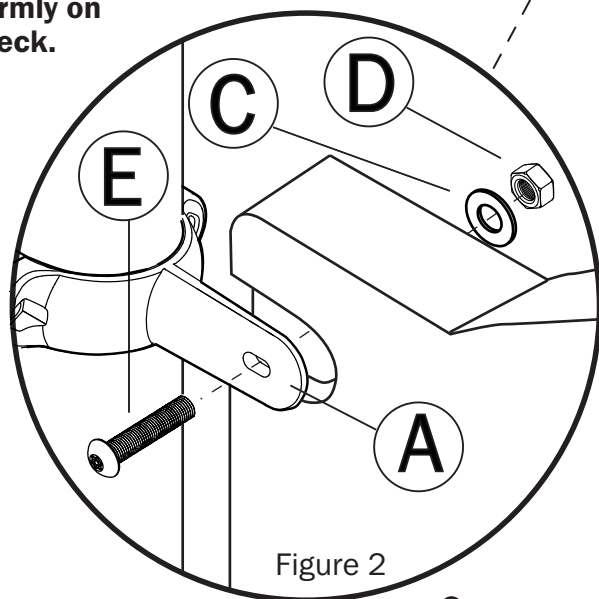

Figure 2
2. From back side of Slide Hood, place flat side of Panel Clamp(A) against Slide Hood. Insert Bolt(E) into slot of Panel Clamp(A), through hole in Slide Hood and secure with Flat Washer(C) and Lock Nut(D). Repeat for other side. See Figure 2.
3. Close Panel Clamp(A) around upright. Insert (2)Bolts(F) into Clamp(A) and tighten with Lock Nuts(D).